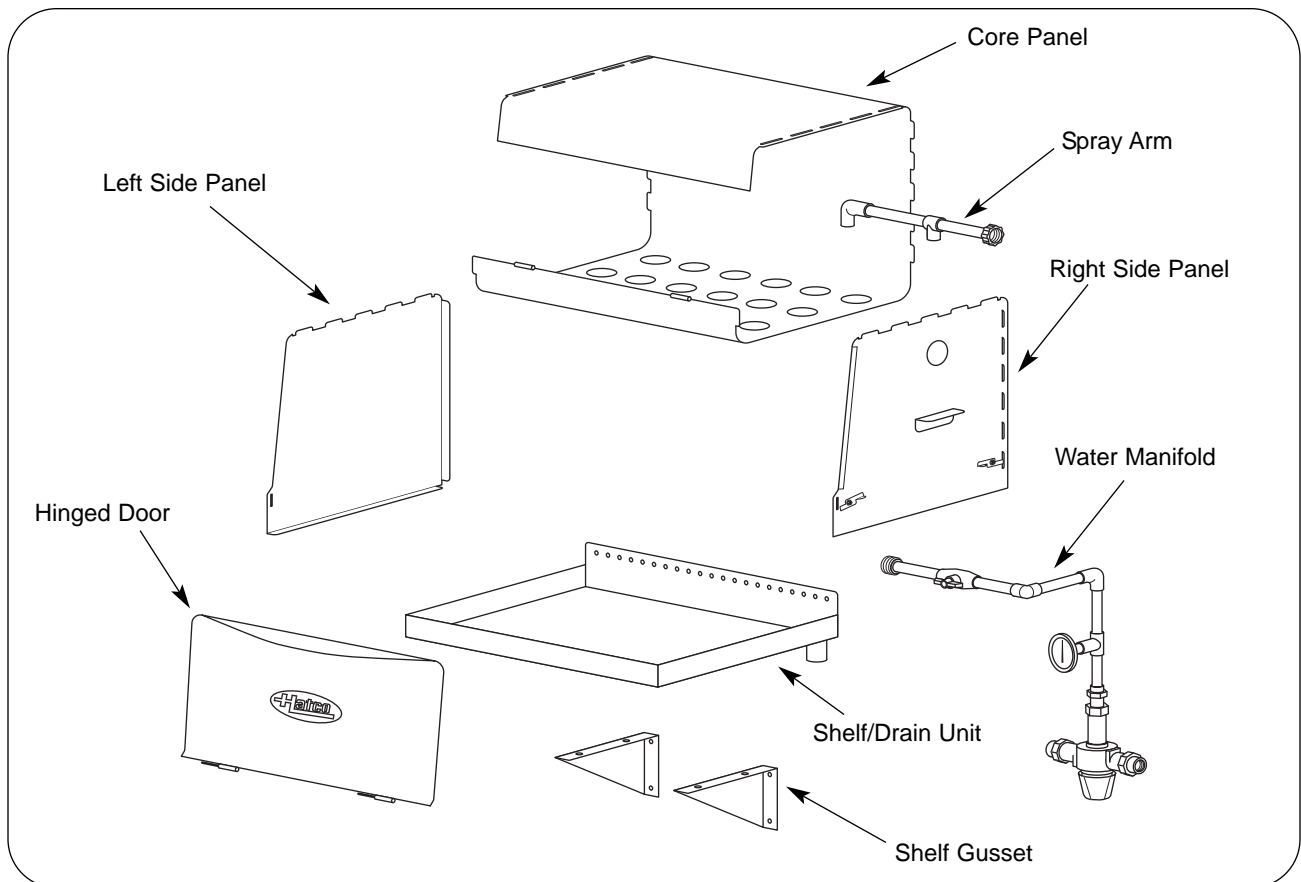

Figure 3. HQT-1 Components
Hatco Quick Thaw units are shipped from the factory partially assembled. (See Figure 3.)
*NOTE: Contact Hatco if any of the components in Figure 3 are missing or damaged.*